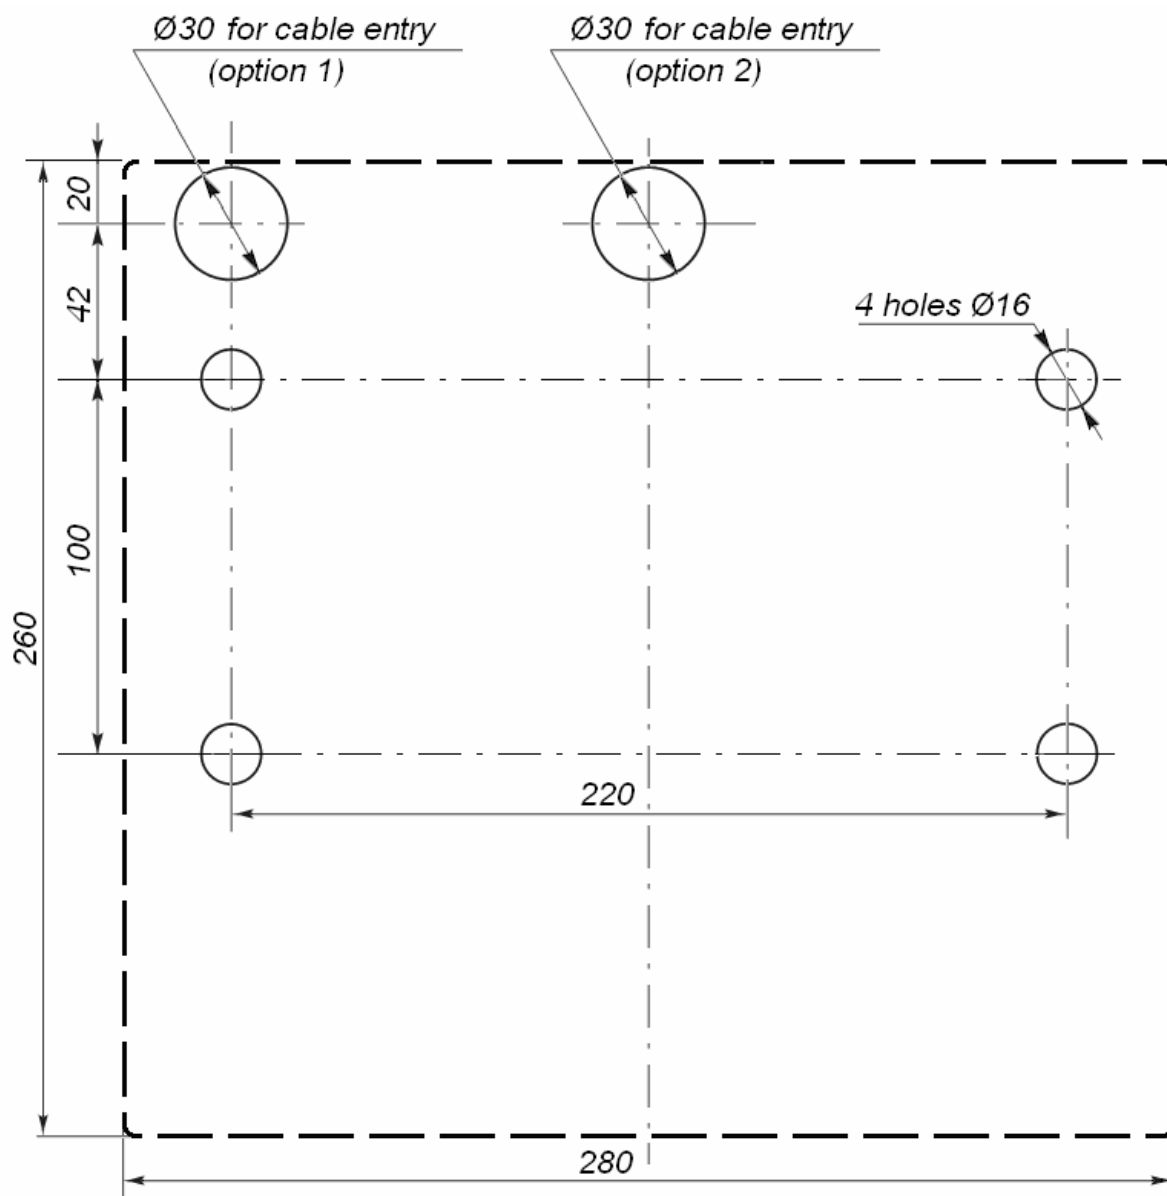

Fig. 9 Floor anchor position and cable entries for housing installation
- to mark the mounting holes according to Fig. 9;
2. Make the holes for anchor bolt (13) sleeves for the turnstile housing installation (Fig. 9). If you lay out cables under the floor surface, make an electric raceway to the cables laying zone of the turnstile housing (option 1 or 2 in Fig. 9)